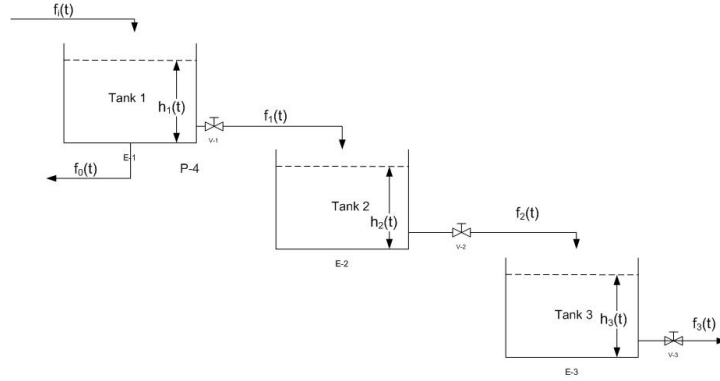

Figure 1: Three-tank process.
2. Consider the system composed by three-tanks in series [2] shown in Fig. 1. The inputs of the system are the tank 1 input flow $f_i(t)$ and the tank 1 output flow $f_0(t)$. The output of the system is the output flow $f_3(t)$ from the tank 3. A_1 , A_2 and A_3 are the cross-sectional area of the tanks, ρ is the density, and $h_1(t)$, $h_2(t)$ and $h_3(t)$ are the tank levels.